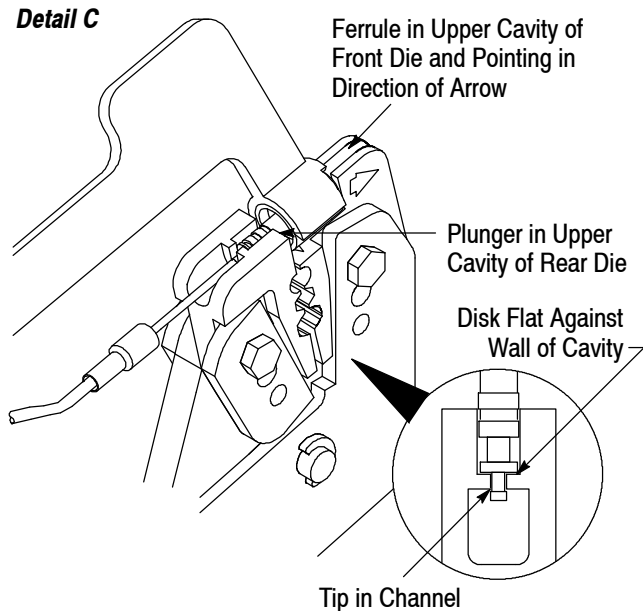

Figure 7: Crimping
The arrows marked on the front die indicate the direction that the ferrule must be pointing when the connector is positioned in that cavity. For proper placement, and to avoid damage to the fiber, the direction of the arrows must be observed. Refer to Figure 6, Detail C and Figure 7, Detail A.
6. Position the plunger of the connector assembly in the first (smallest) cavity of the front die with the shoulder of the plunger against the edge of the groove in the die and the ferrule pointing in the direction of the arrow. See Figure 7, Detail A.
8. Slide the crimp eyelet away from the connector until the strength members are free, then slide the crimp eyelet toward the connector until the strength members and crimp eyelet butt against the connector. See Figure 7, Detail B.
9. Slide the black tubing forward into the small diameter end of the crimp eyelet until it butts against the rear of the connector. See Figure 7, Detail B.
10. Position the large diameter end of the crimp eyelet in the last (largest) cavity of the front die with the ferrule pointing in the direction of the arrow. See Figure 7, Detail C. Slowly squeeze the tool handles together until the ratchet releases. Allow the handles to open fully.
11. Position the small diameter end of the crimp eyelet in the middle cavity of the front die with the ferrule pointing in the direction of the arrow. See Figure 7, Detail D.